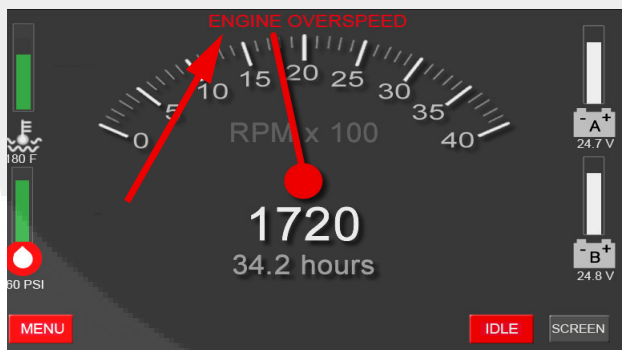

Figure 4-4 Overspeed Test Timer Expired (Sample)
5. When the timer expires (shown in Figure 4-3), "ENGINE OVERSPEED" written in red will flash at the top of the FPDP screen (shown in Figure 4-4).